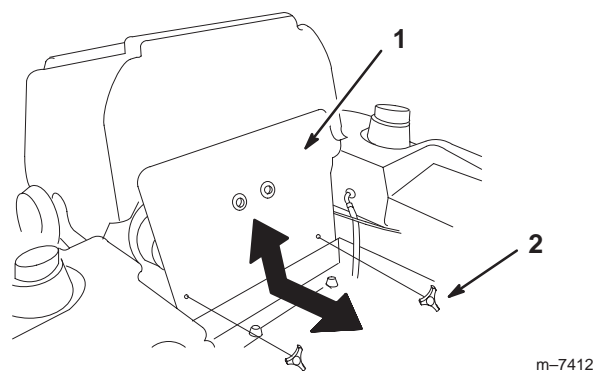

Figure 79
3. Tilt the seat forward and remove the front engine panel (Fig. 79).
7. Install the front engine panel (Fig. 79).